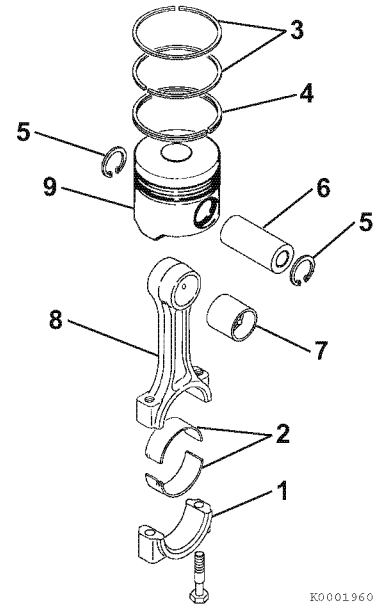

Figure 6-57
5. Remove the bearing inserts (**Figure 6-57, (2)**).
6. Remove the compression rings (**Figure 6-57, (3)**) from the piston using a piston ring expander.
7. Remove the oil ring (**Figure 6-57, (4)**) from the piston using a piston ring expander.
8. Remove the circlips (**Figure 6-57, (5)**) from the wrist pin.
9. Remove the wrist pin (**Figure 6-57, (6)**) and connecting rod (**Figure 6-57, (8)**) from the piston (**Figure 6-57, (9)**).